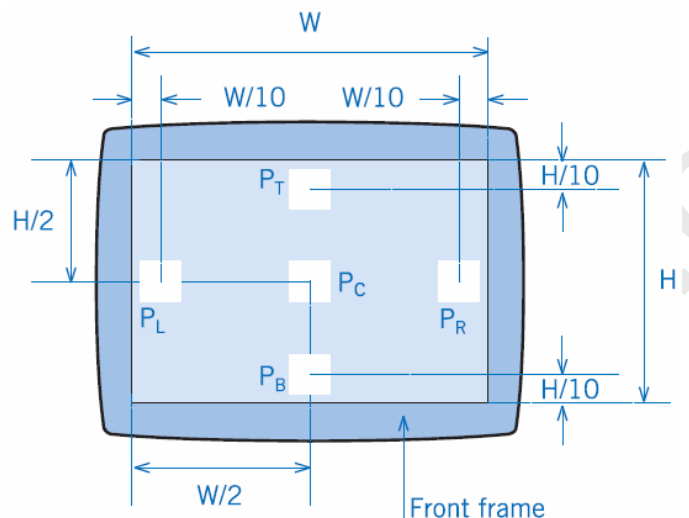

Figure1: Measurement positions for angular dependence luminance uniformity.
1. Refer to Fig.1&2, for FPDs in the horizontal direction, the mean value of the Lmax. to Lmin. ratios at ± 30 degrees shall be 1.7.
2. Refer to Fig.1&3, for FPDs in the vertical direction, the value of Lmax. to Lmin. ratio at $+15$ degree shall be 1.7 and the largest value of Lmax. to Lmin. ratio at ± 15 degree shall be
Refer to Fig.1&2, center point(P_c) Luminance of White(L_w) and Black(L_b) is measured at ± 30 degrees.